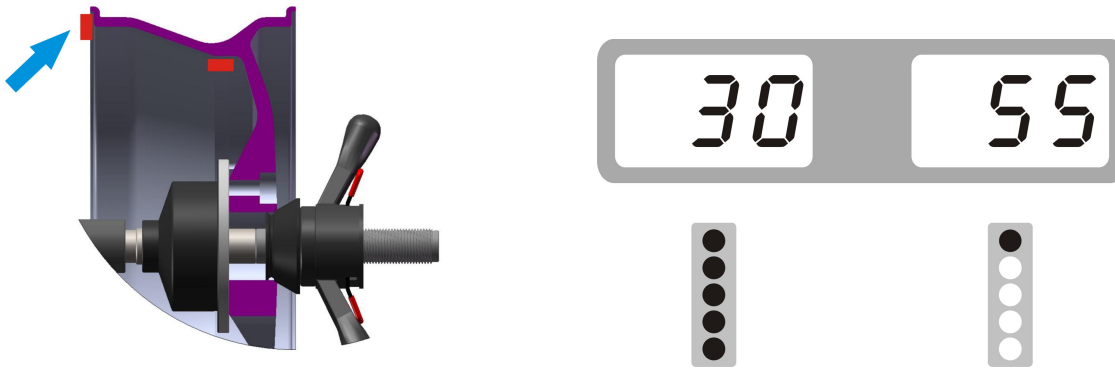

Fig. 7
4.2.6. Anticlockwise moving wheel slowly, the displays with left LED's lit up full indicate the correct angular position where to mount the counterweights, 12 o'clock position (9H=Off) or 9 o'clock (9H=On) position inside, as Fig.7, add the counterweight.